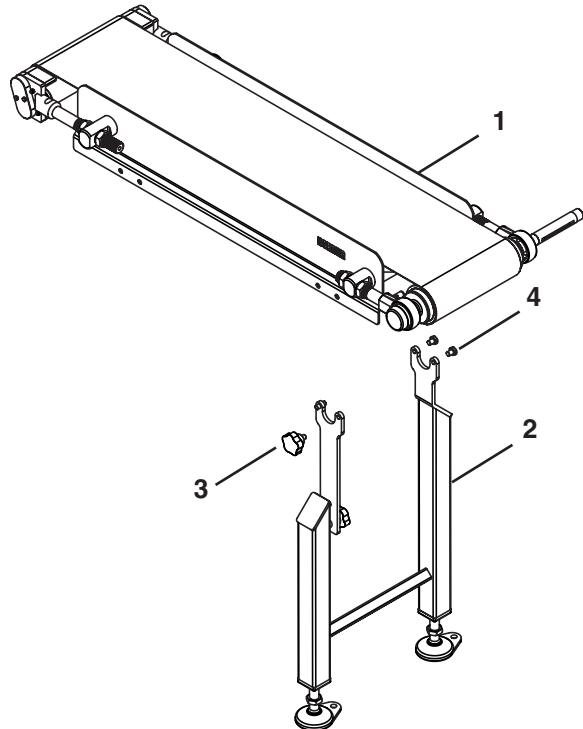

Figure 14
Typical Stand Components (Figure 14)
- Attach the quick-release arm to the stand with the knob. (Figure 14, item 3).